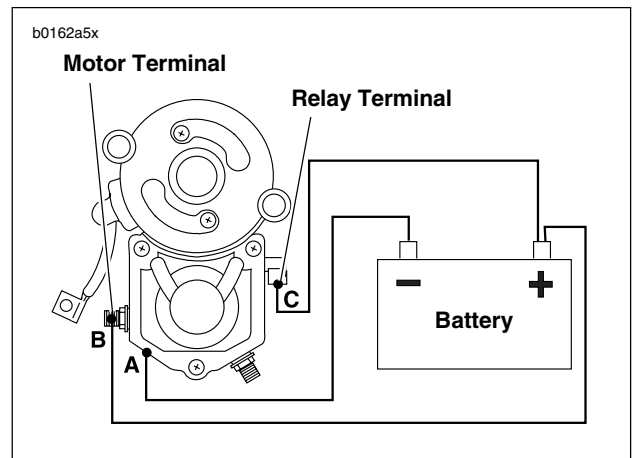

Figure 5-13. Hold-In Test
- See Figure 5-13. With test leads still connected in the manner specified in the previous **SOLENOID PULL-IN TEST**, **disconnect solenoid motor terminal/battery negative test lead (B) at negative battery post only; reconnect loose end of this test lead to positive battery post instead.**